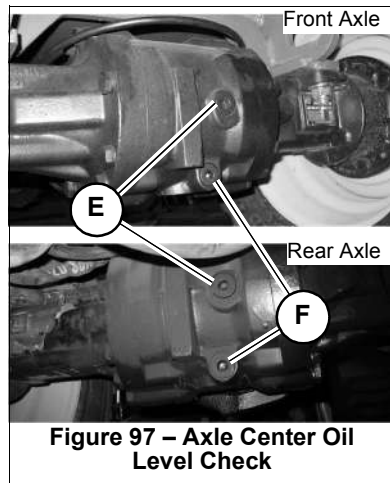

Figure 97 – Axle Center Oil Level Check
2. Thoroughly clean the area around the axle center fill plugs (*E*, Fig. 97), Slowly loosen and remove the plugs.
3. Thoroughly clean the area around the axle center drain plugs (*F*, Fig. 97) and slowly loosen and remove the plugs. Allow the oil to completely drain from the axle centers.